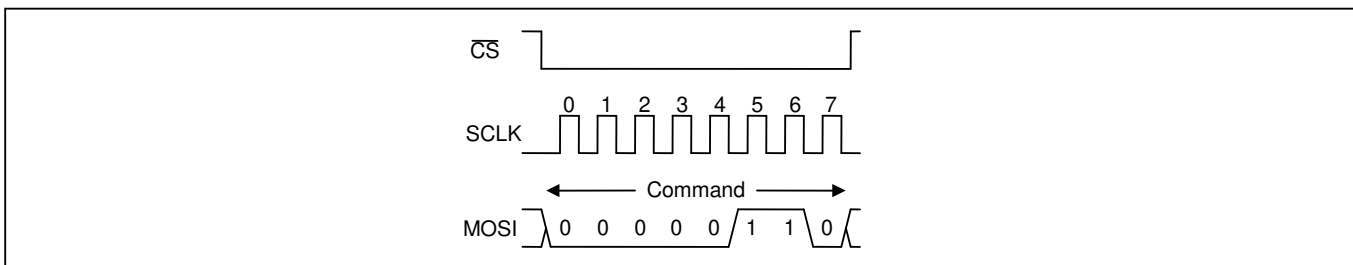
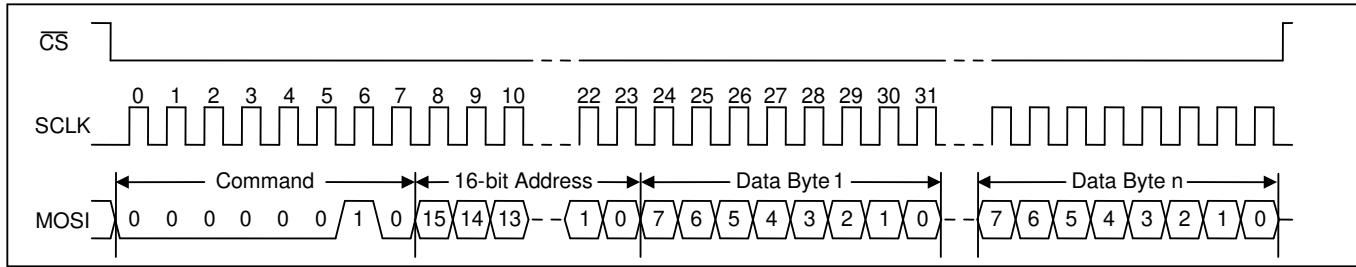

Figure 8 - SPI Write Enable Transaction Functional Timing (ZL30245 Only)
Figure 9 - SPI Write Transaction Functional Timing
**Register Write Transactions.** The device registers are accessible when **EESEL=0**. After driving CSN low, the bus master transmits the write command followed by the 16-bit register address followed by the first data byte to be written. The device receives the first data byte on MOSI, writes it to the specified register, increments its internal address register, and prepares to receive the next data byte. If the master continues to transmit, the device continues to write the data received and increment its address counter. The write transaction is completed when the bus master drives CSN high. See Figure 9.
its page buffer. The device then receives the first data byte on MOSI, writes it to its page buffer, increments its internal address register, and prepares to receive the next data byte. If the master continues to transmit, the device continues to write the data received to its page buffer and continues to increment its address counter. The address counter rolls over at the 32-byte page boundary (i.e. when the five least-significant address bits are 11111). When the bus master drives CSN high, the device transfers the data in the page buffer to the appropriate page in the EEPROM memory. See Figure 8 and Figure 9.